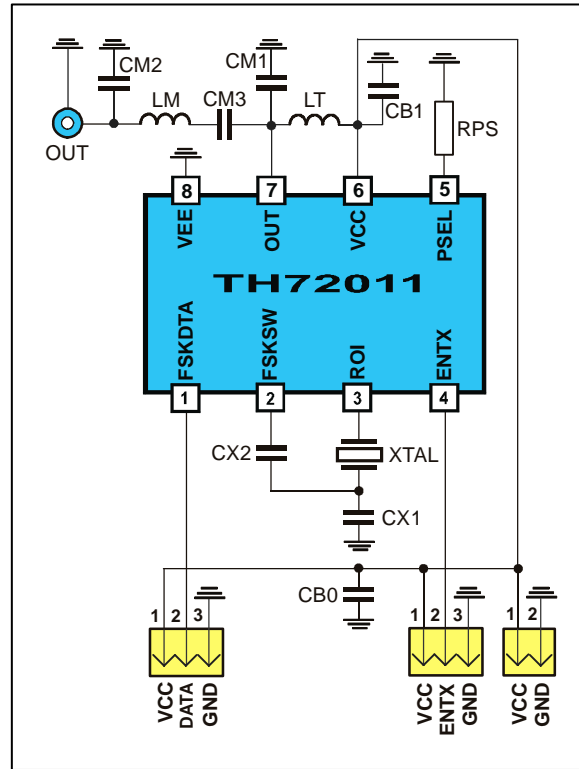

Fig. 18: Test circuit for FSK with 50 Ω matching network
typical values at $T_A = 23\text{ }^\circ\text{C}$ and $V_{CC} = 3\text{ V}$; test circuit shown in Fig. 18, $f_c = 433.92\text{ MHz}$
- Data according to test circuit in Fig. 18
6.1 Test circuit component list to Fig. 18